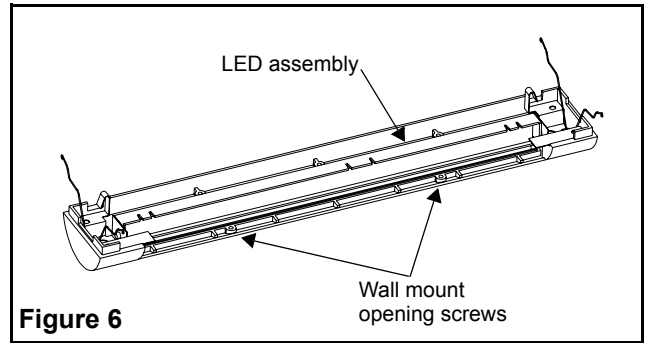

Figure 6
- a. Remove the wall mount opening panel located on the edge of the trim plate by removing the two screws (see fig. 6).
- b. Rotate the LED assembly toward the wire bundle until it clicks into place (see fig. 6 to locate the LED assembly).